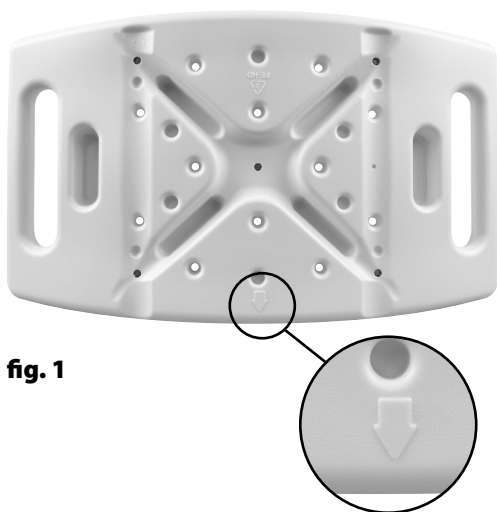

fig. 1
1. Lay the seat board flat, making sure that the arrow is pointing forward (see fig. 1)